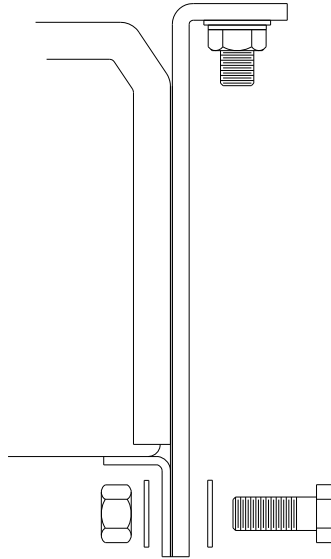

Figure 2-10: Bolt Mounting Bracket to Unit
1. Locate the mounting studs on the bottom of the Compact Outdoor SSPA unit. Using a ½” **bolt**, two **flat washers**, and a ½” **nut**, firmly bolt one **mounting bracket** to each mounting stud, as shown in Figure 2-10. Be sure each bracket is vertical, and the top flange of the mounting bracket points away from the unit.